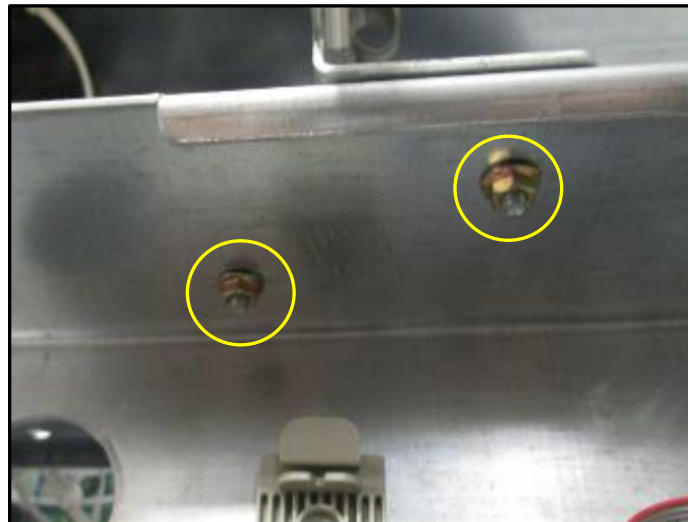

Fig 1.20 – Location of CRIND Control Bracket nuts
- 39.** Remove and discard the three 9/32" nuts that are fastening the CRIND Control Bracket to the upper electronics rail in the electronics cavity. (Fig 1.20)